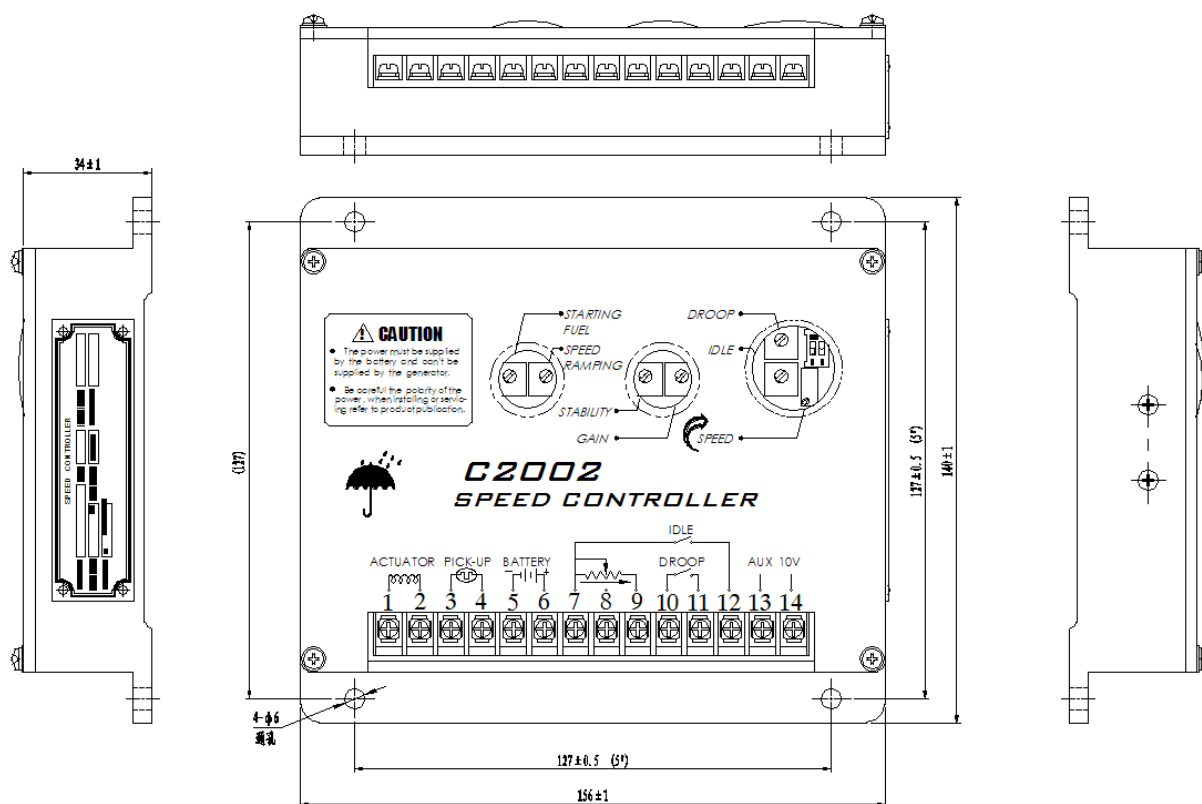

Figure 2.1.2 : The outline and installing size of the C2002 speed control unit
2.1.2 The outline and installing size of the C2002 speed control unit (figure 2.1.2)